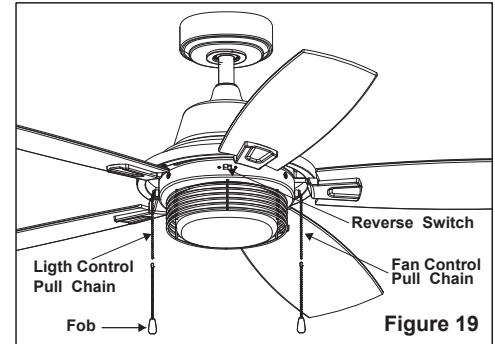

Figure 19
Step 12. Connect the fobs to the appropriate pull chains as shown in Figure 19.